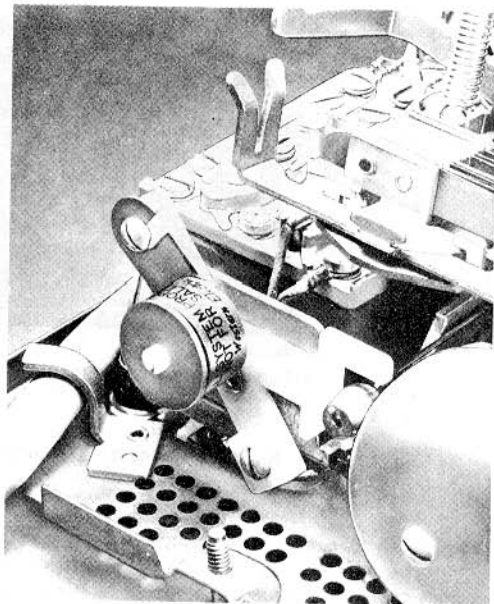

Fig. 10—KS-20419L1 Buzzer Mounted on Bracket of H1A Ringer
4. Where both ringer and buzzer signals are needed in these sets replace the C4A ringer with an H1A ringer. Mount KS-type buzzers per (Fig. 10 and 11).